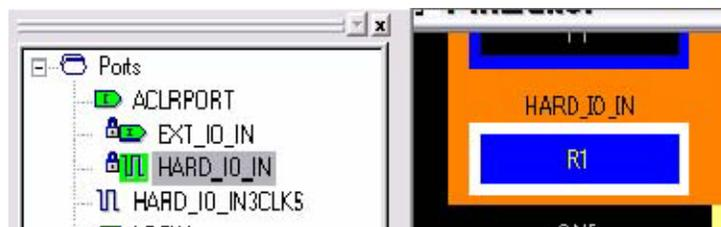

Figure 3-32 • Port Assignment for a CCC with Hardwired I/O Clock Input
- Find the associated clock input port under the Ports tab, and place the input port at one of the Gmn* locations using PinEditor or I/O Attribute Editor, as shown in Figure 3-32.